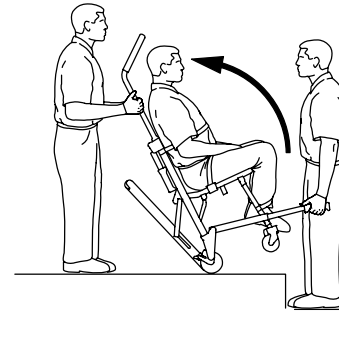

Figure 9 – Tilt the chair
6. Head end operator: Tilt the chair back just far enough to allow the **Stair-TREAD** system to contact the floor (Figure 9).